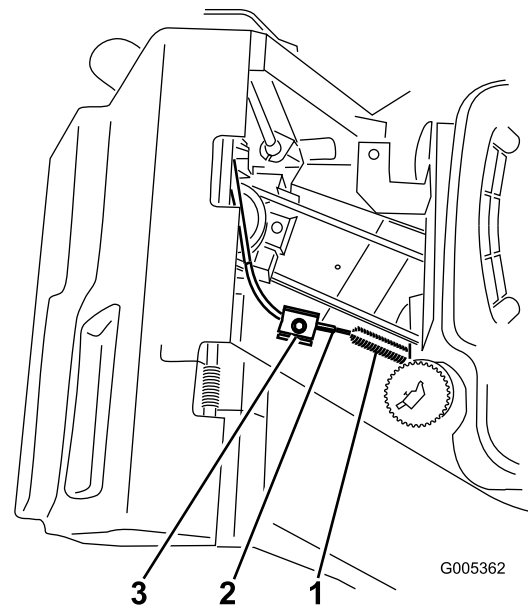

Figure 27
5. Loosen the cable clamp screw until the brake cable conduit slides (Figure 27).